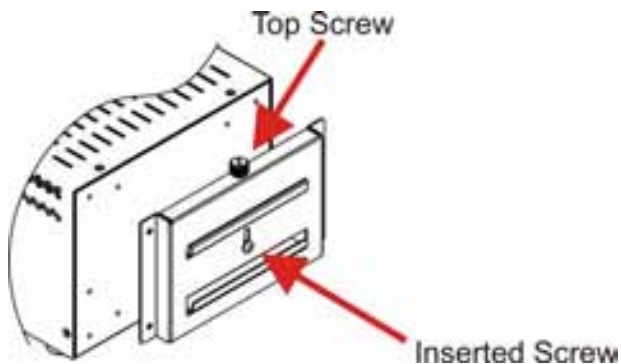

Figure 5-15: Screw Locations
- Step 2:** Make sure the inserted screw in the center of the bracket is at the lowest position of the elongated hole (**Figure 5-15**).